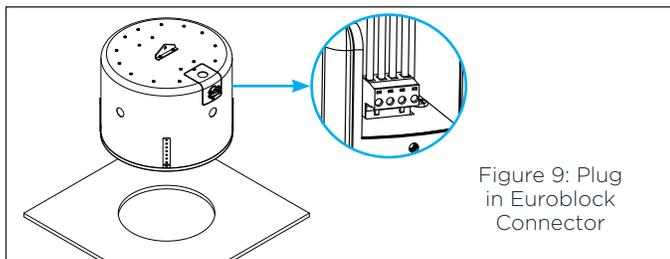

Figure 9: Plug
- Once all the wires are terminated. Plug the Euroblock Connector into the back of the PS-C85BB loudspeaker back box (see Figure 9).